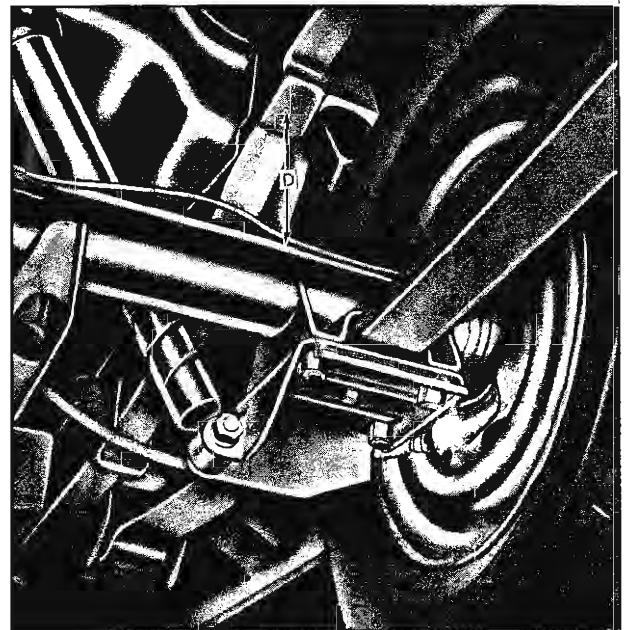

Fig. 5—Rear Riding Height
4. On Chevy II models, measure riding height as the distance from lower surface of bumper support bracket to top of axle housing (fig. 5).
Chevy II Models	Riding Height (Dimension "D" Fig. 5)